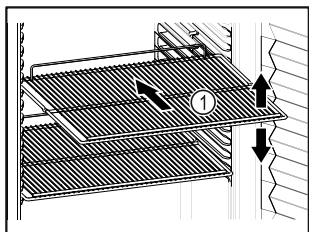

Fig. 57 Example illustration
- ❑ If there are adjustable shelves Fig. 57 (1), position them as required.